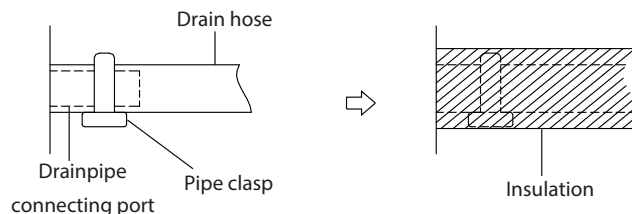

Fig. 26 — Indoor Drainpipe Installation
2. Attach the mouth of the drain hose to the unit's outlet pipe. Sheath the mouth of the hose and clip it firmly with a pipe clasp (see Fig. 26).